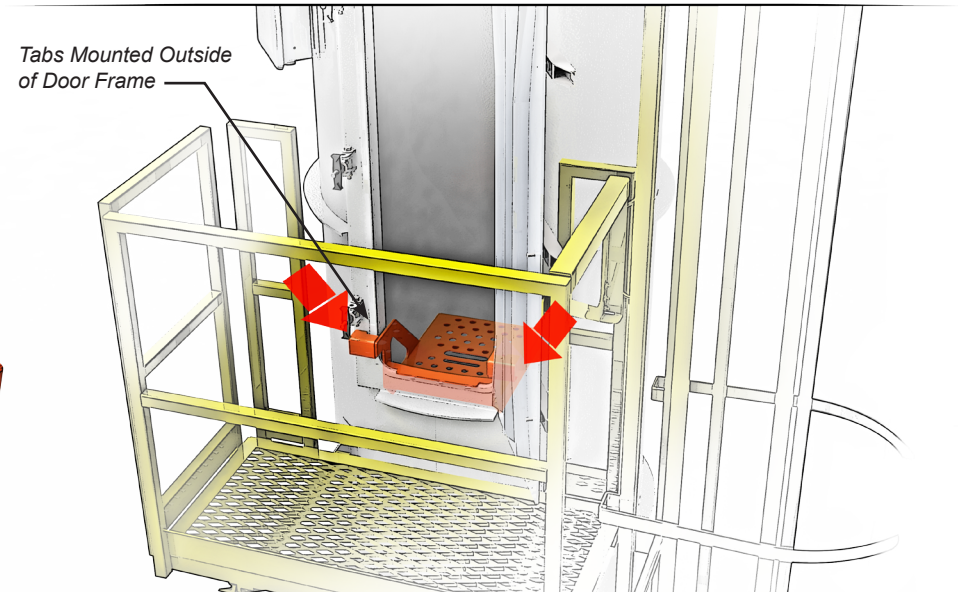

FIGURE 6.1
3. Place cleaning platform inside the filter access door as shown (see Figure 6.1 and 6.2). For door mount platform, make sure the tabs on both sides of the cleaning platform are on the outside of the door frame. Check to make sure the cleaning platform is level and secure. The platform should not rest against or interfere with any filter bags inside the chamber.